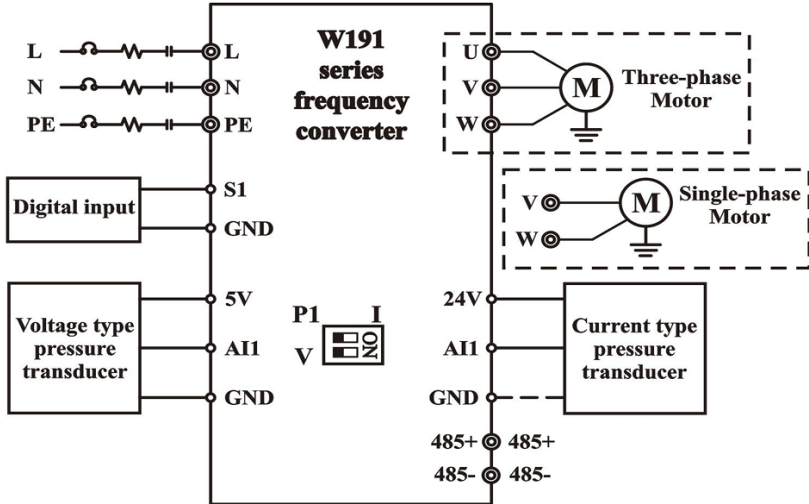
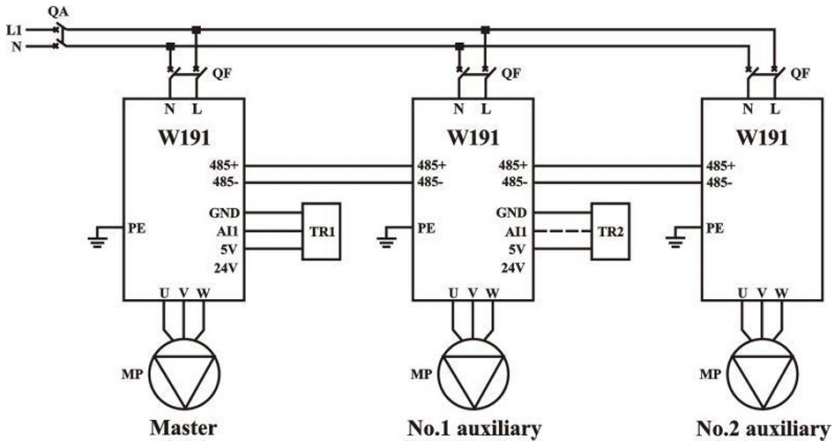

Fig. 6-1-1 Single-pump water supply wiring diagram
Fig. 6-1-2 Water supply Master wiring diagram of the connected pump
- The sensor used in Figure 6-1-2 is the three-line voltage sensor of the company. If the current sensor is used, please refer to Figure 6-1-1 for the wiring method.